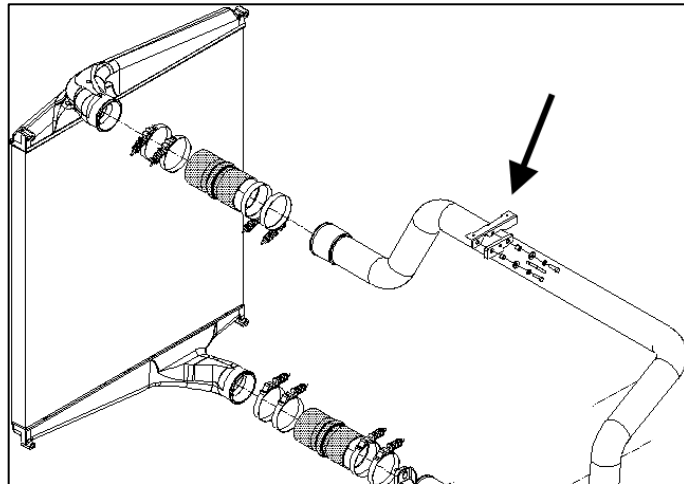

Figure 1
1. Locate this support (arrow, fig. 1) along the top charge air cooler line in the engine compartment.